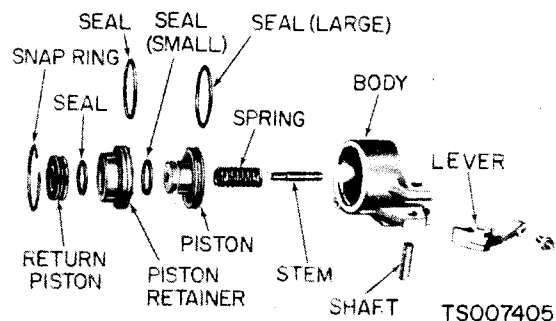

Figure 7-17. Front Servo.
(1) Refer to figure 7-17 and remove the servo piston retainer snap ring. Apply pressure to the piston when removing the snap ring.
(1) Lubricate all parts of the front servo with transmission fluid to facilitate assembly.
(2) Install the inner and outer O-rings on the piston retainer. Install a new O-ring on the return piston and on the servo piston (fig. 7-17).
(3) Position the servo piston release spring in the servo body. Install the servo piston, retainer, and return piston in the servo body as an assembly. Compress the assembly into the body, and secure it with the snap ring. Make sure the snap ring is fully seated in the groove.
(4) Install the adjusting screw and locknut